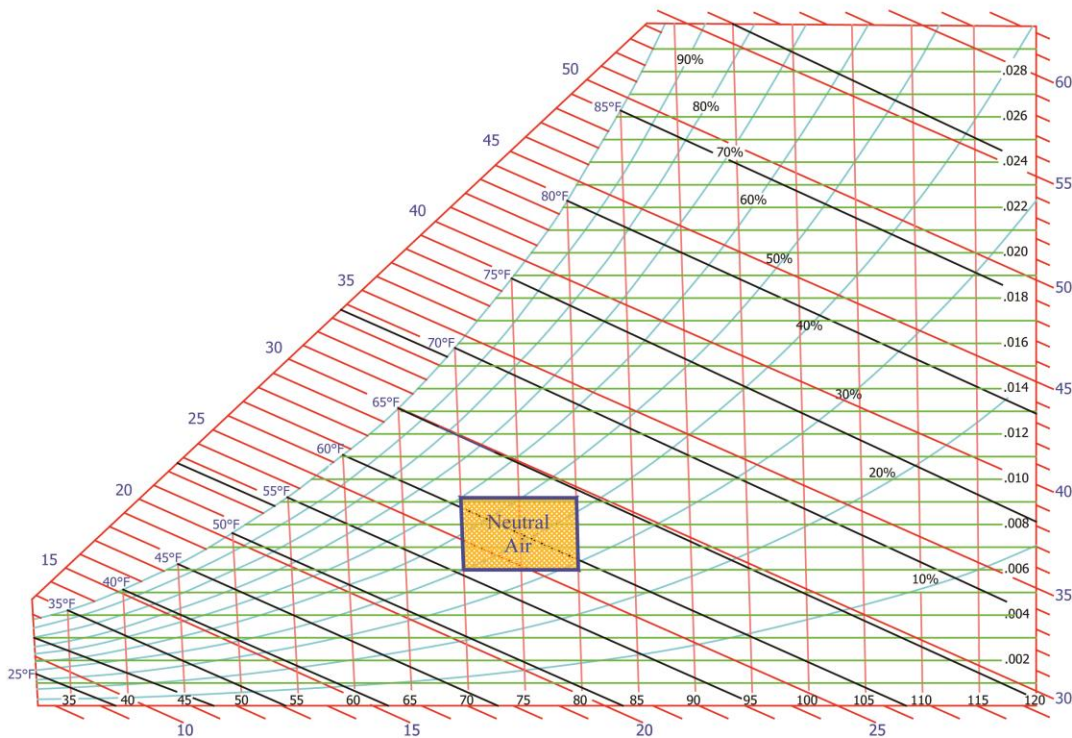

Figure 1
75.0°F dry bulb (DB) and 50%RH would be 75.0°F DB and 55.1 °F dewpoint (DP) maximum. Neutral air for a process space to be maintained at 70°F DB and 45%RH would be 70.0°F DB and 47.7°F DP maximum. Most applications will fall into the range shown in FIGURE 1. In all cases, the strategy is to design the dedicated outside air unit to maintain zone relative humidity, and the local terminal units are primarily designed to maintain temperature.